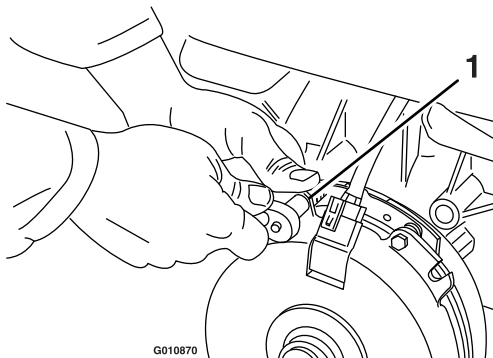

Figure 73
- A. Loosen both brake-mounting bolts 1/2 to 1 full turn as shown in Figure 73.